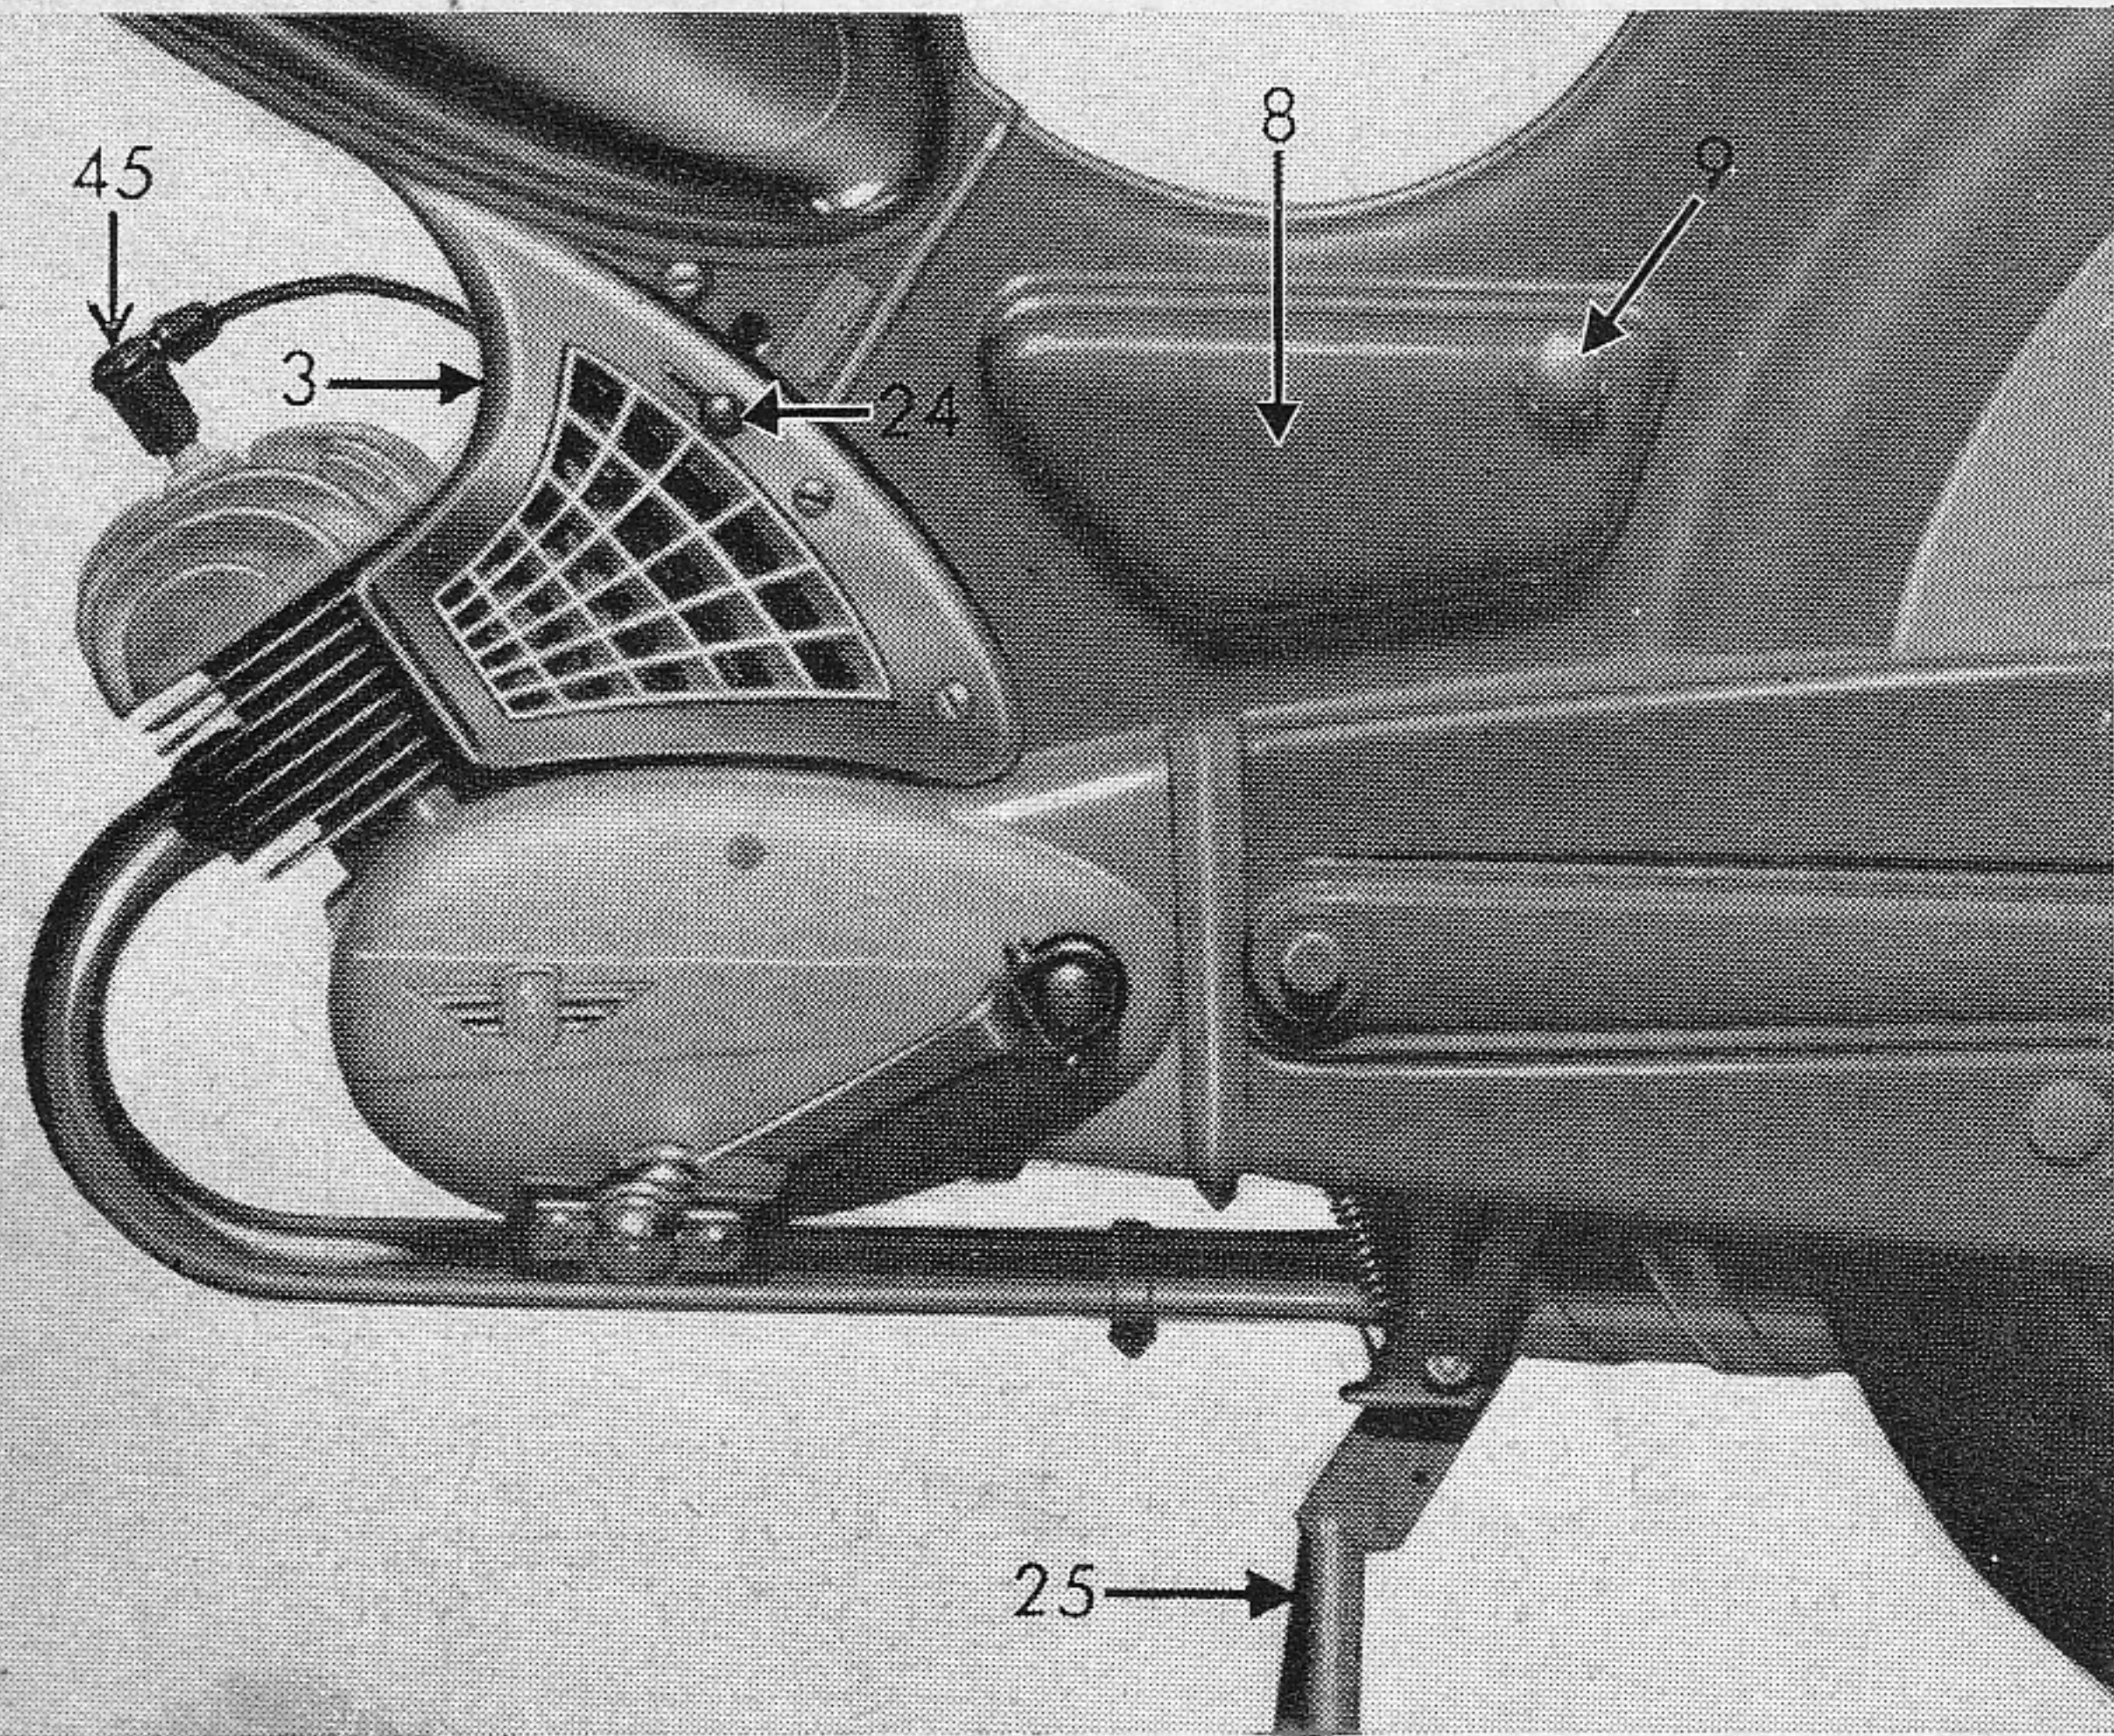
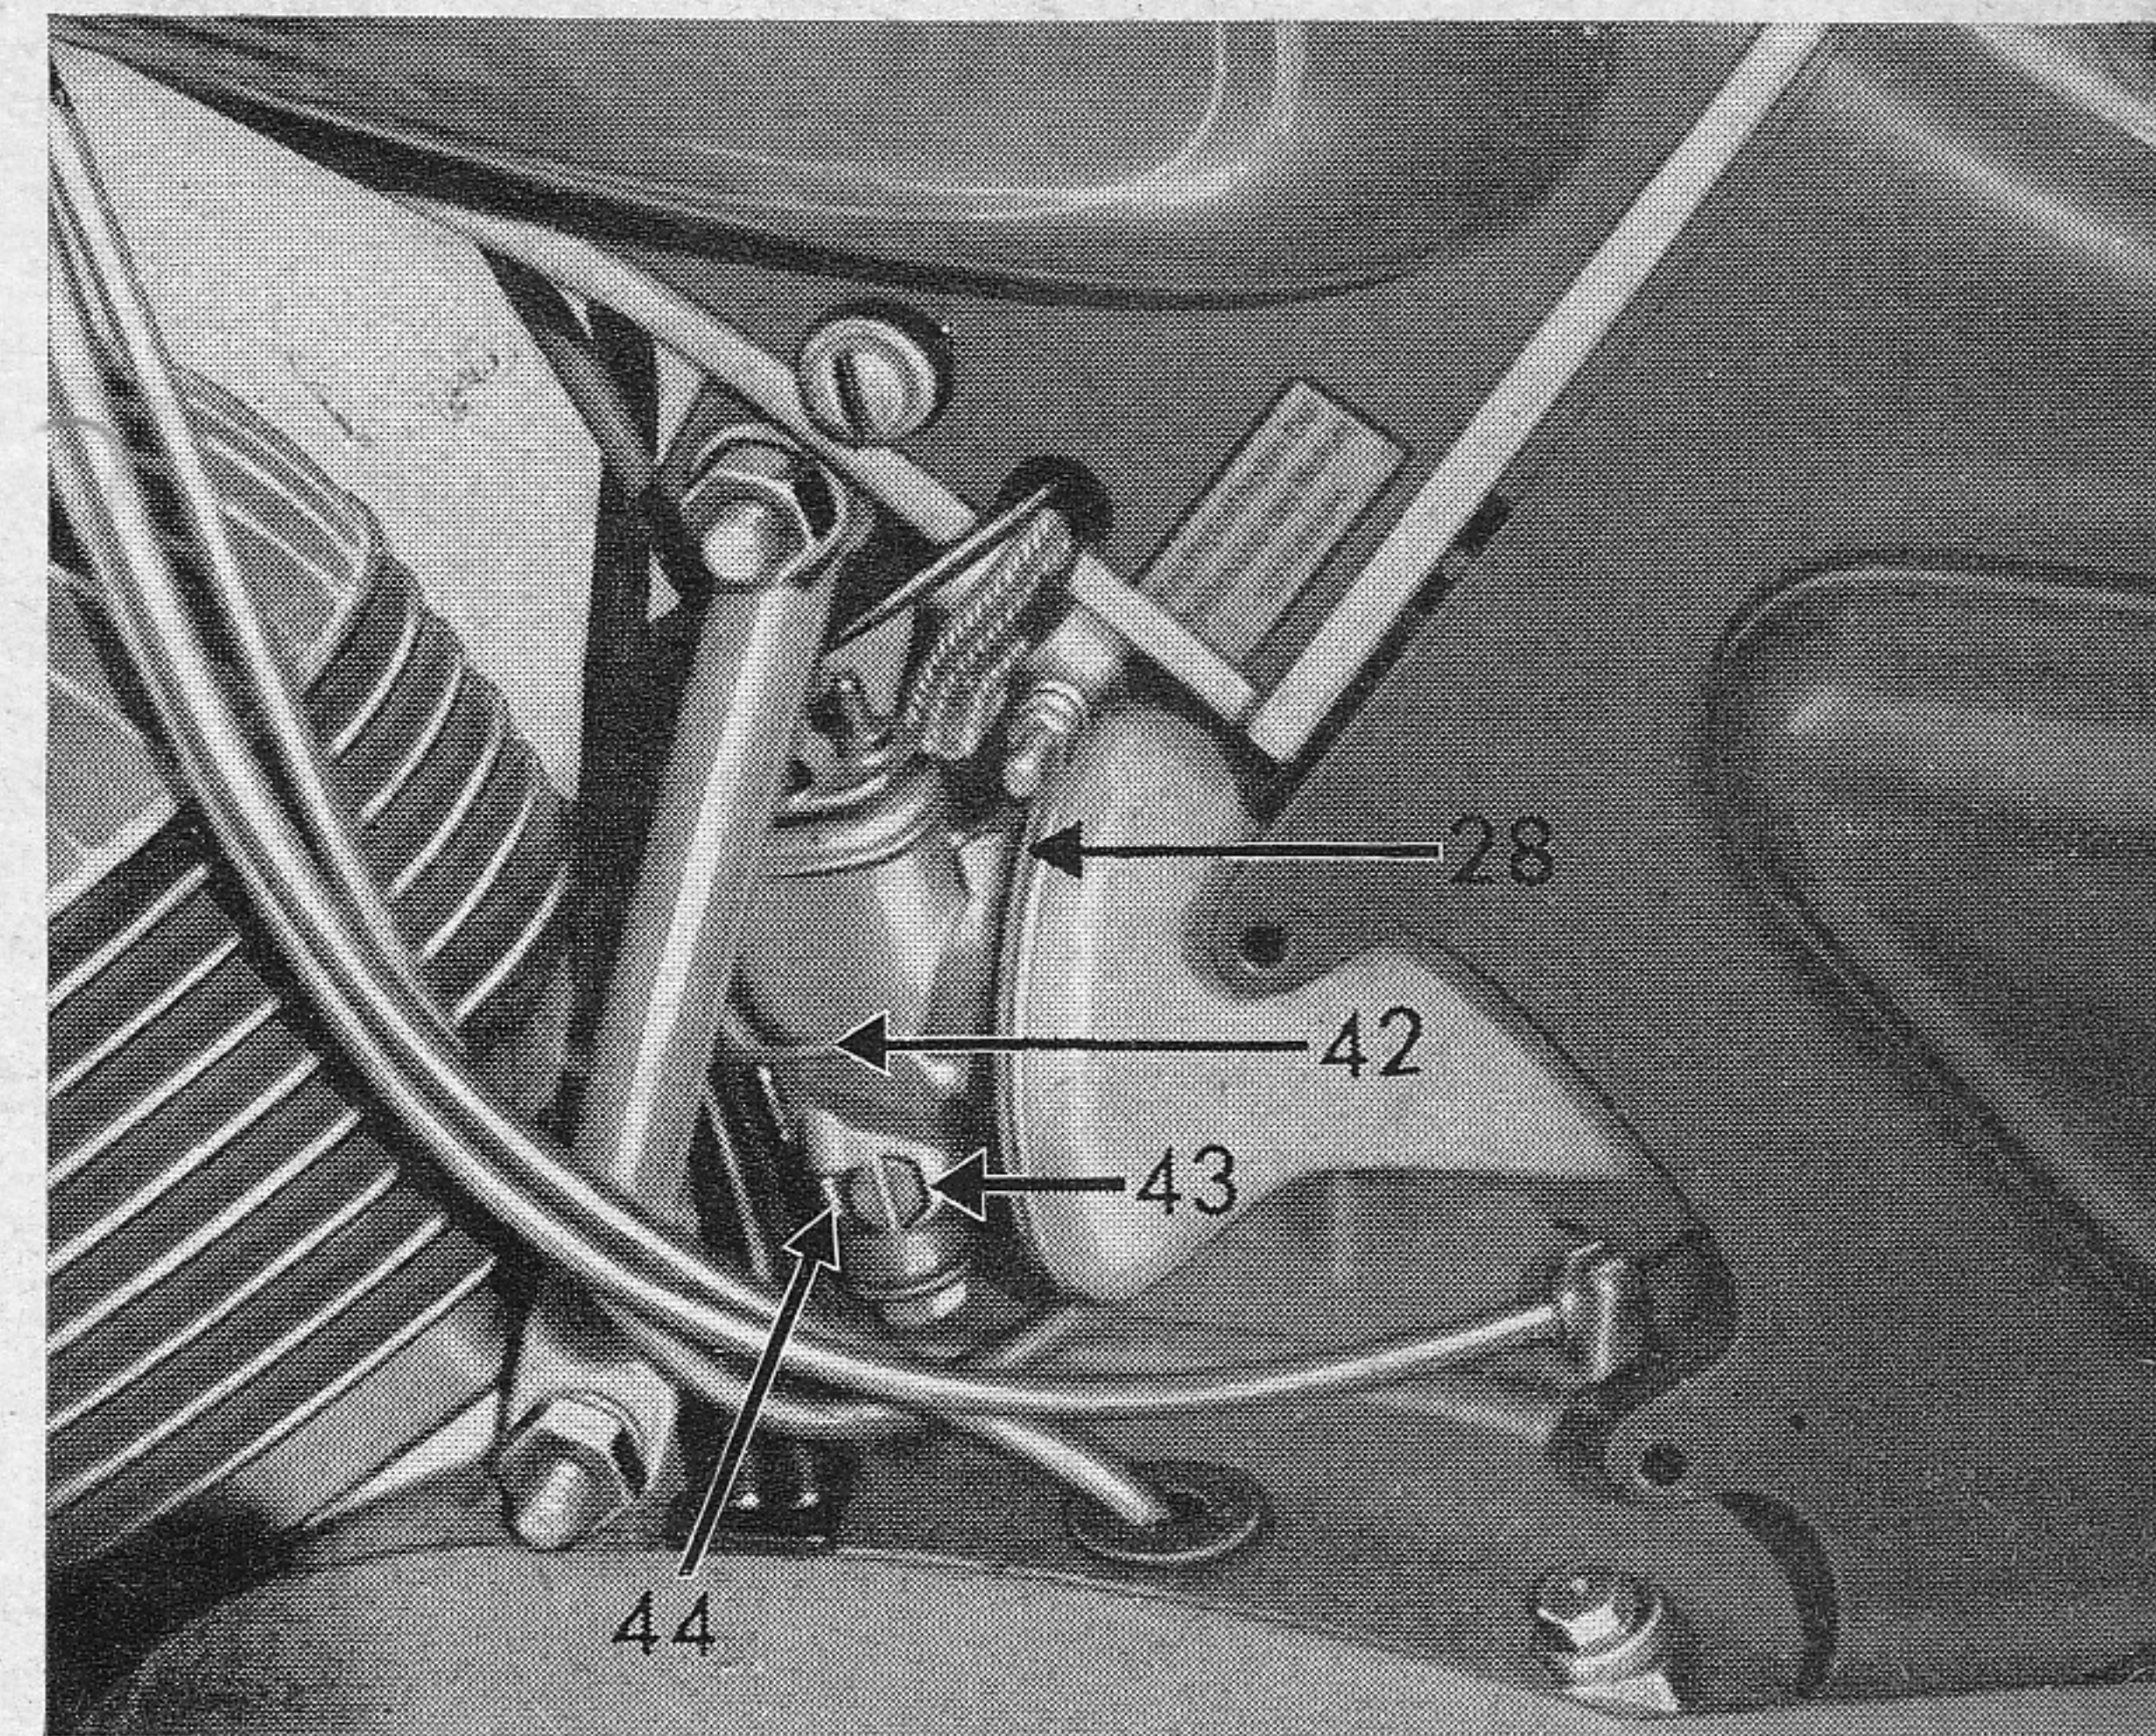

Fig. 2
Fig. 8
- c) The correct oil level in the gearbox is shown by a mark on the dipstick which has a red screw cap. This becomes accessible after removing the left-hand carburettor cover 3 (fig. 2). The correct quantity is about 350 cc.
1. Open fuel tap 2. When starting from cold, keep throttle twist gripp 23 closed and advance choke lever 24 on the left-hand carburettor cover 3 (fig. 2) to close the throttle slide in the carburettor. In warm weather or when the engine is already warm, this lever need not be used, since an enriched fuel mixture is only required for starting in cold weather.
2. Push the machine off stand 25 (fig. 2), then start engine as follows: Check that you are in neutral gear. Gear positions are marked on the gear-change (left-hand) twist grip 34.
To **clean the air filter** 28 (very important, see fig. 8), take off carburettor cover 3 (fig. 2) on left-hand side of machine by removing the two screws. Then take off the clamping rings, push back the plastic filter chamber (bending will not harm the chamber), and the filter will now easily come away from carburettor 42. The simplest way is to rinse the filter in a petrol mixture. Then replace carefully; carelessly assembled filters will reduce engine performance and service life.
6. Chain (see fig. 8)
8. Carburettor (fig. 8)
9. In **neutral**, the engine should tick over quietly. If it needs retuning, proceed as follows: With the engine still warm, turn screw 44 (fig. 8) into the carburettor housing as far as it will go, then start engine. Keep the throttle closed and slacken the screw until the engine just ticks over smoothly. Generally, three half-turns of the screw will be sufficient.